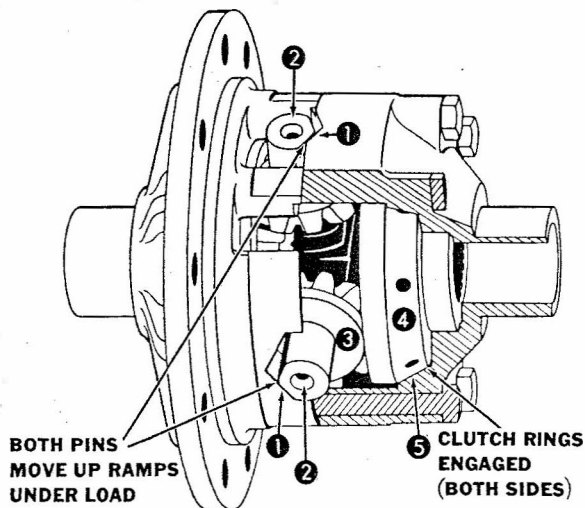

FIG. 3
As the vehicle is put in motion, the driving force moves the cross pins (2, Fig. 3) up the ramp of the cam surface (1), applying a load to the clutch rings (4) and restricts turning of the differential through the friction of the clutch ring on its mating surface (5) in the differential case.